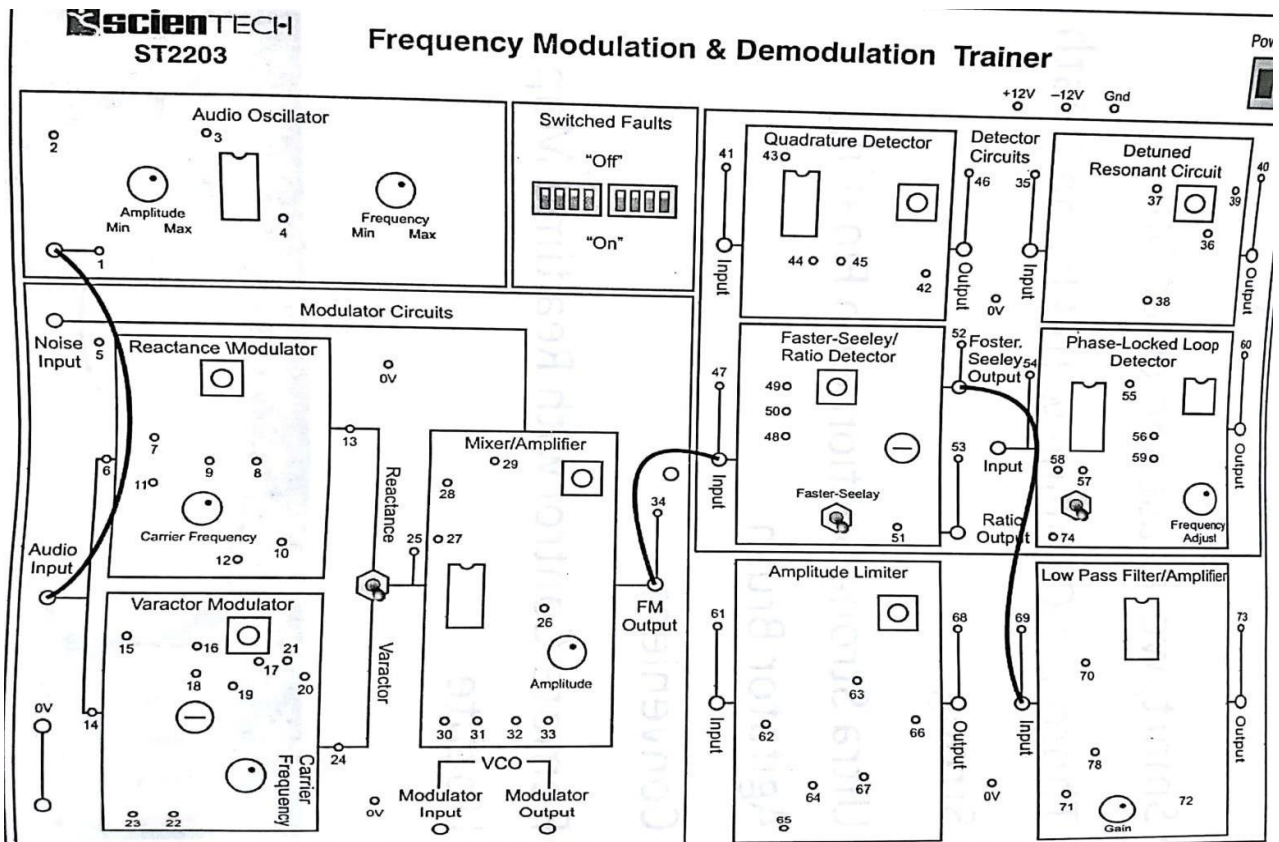

Figure 4: Connections for FM Demodulation using Foster-Seeley Detector
When the input signal is un-modulated: We will start by building up the circuit a little at a time. To do this, we can ignore many of the components we may recognize immediately that it consists of two envelope detectors like half wave rectifiers are fed from the center-tapped coil L2. With reference to the center-tap, the two voltages V1 and V2 are in anti-phase as shown by the arrows. The output voltage would be zero volts since the capacitor voltages are in anti-phase and are equal in magnitude. After adding two capacitors: The next step is to add two capacitors and see their effect on the phase of the signals. L1 and L2 are magnetically tightly coupled and by adding C3 across the centre-tapped coil, they will form a parallel tuned circuit with a resonance frequency equal to the un-modulated carrier frequency. Capacitor C5 will shift the phase of the input signal by  $90^\circ$  with reference to the voltage across L1 and L2. The voltages are shown as Va and Vb in the phasor diagram given in figure 39. Using the input signal Vfm as the reference, the phasor diagrams now look the way shown in figure 4. C4 is not important. It is only a DC blocking capacitor and has negligible impedance at the frequencies being used. But what it does do is to supply a copy of the incoming signal across L3. The entire incoming signal is dropped across L3 because C1 and C2 also have negligible impedance. If we return to the envelope detector section, we now have two voltages being applied to each diode. One is V1 or V2 and the other is the new voltage across L3, which is equal to Vfm. When the input Frequency changes: If the input frequency increased above its un-modulated value, the phasor of Va would fall below  $90^\circ$  due to the parallel tuned circuit becoming increasingly capacitive. This would result in a larger total voltage being applied across D1 and a reduced voltage across D2. Since the capacitor C1 would now charge to a higher voltage, the final output from the circuit would be a positive voltage. Conversely, if the frequency of the FM input signal decreased below the unmodulated value, the phase shift due to capacitor C5 increases above  $90^\circ$  as the parallel tuned circuit becomes slightly inductive. This causes the voltage across diode D2 to increase and the final output from the demodulator becomes negative. The effect of noise is to change the amplitude of the incoming FM signal resulting in a proportional increase and decrease in the amplitude of diode voltages VD1 and VD2 and the difference in voltage is the demodulated output, the circuit is susceptible to noise interference and should be preceded by a noise limiter circuit.
2. Make connection as shown in figure 4.